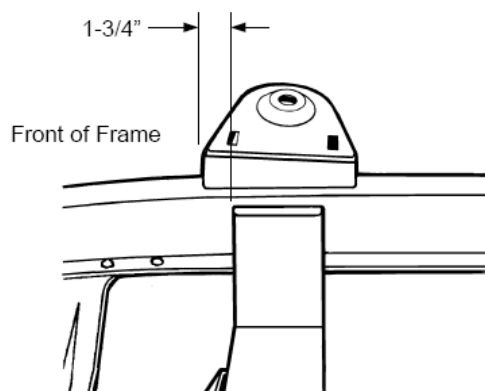

Figure 7- Spring Tower Install
7. Next are the spring towers. They sit on top of the frame rails, and are located with the higher side towards the front as shown in **Figure 7**, (1-3/4" forward of the crossmember). Clamp in place, double check your dimensions, then weld all around, including the gusset flanges on the sides of the rails. For added strength, you can also weld the inside of the gusset flanges.